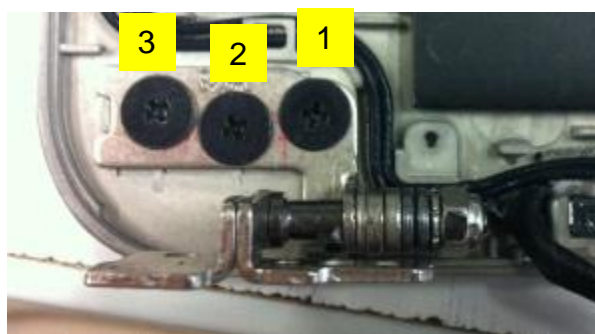

Fig.1
1. Loosen screw* 6.(Fig.1/Fig.2)
2. Disassemble hinge bracket.(Fig.1/Fig.2)